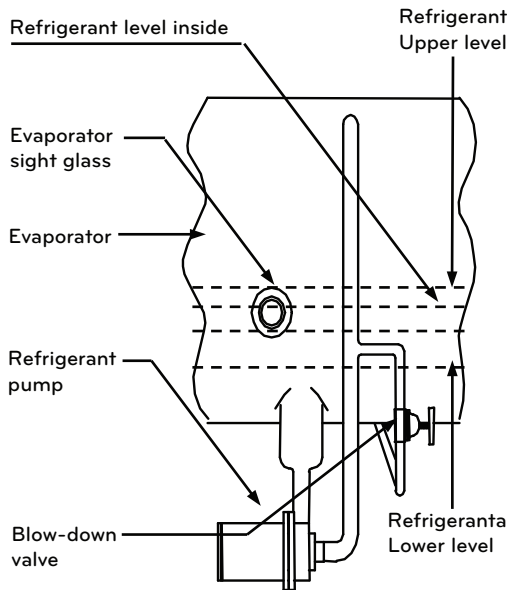

Figure 3-1. Blow-down
- ① Change the operation mode to manual at the 'Control Valve Manual' on the MICOM panel and close the 'Vapor Control Valve' to make a low heat capacity state. (Control valve opening to 30~50%).
- ② Rotate the blow-down valve counterclockwise as in Figure 3-1 to open it.
- ③ Check the amount of refrigerant through the evaporator sight glass.
- ④ Close the blow-down valve when the amount of refrigerant is reduced down to the bottom level.
- ⑤ Be aware of that refrigerant can move over to the absorber through the blow-down valve, thus the refrigerant pump performs no-load operation. And in case a refrigerant blow-down valve is attached, do not stop the refrigerant pump. If refrigerant pump stops in auto mode, then convert to MANUAL mode before putting it into operation. (When the temperature of chilled water is going down causing MICOM to be in auto mode, refrigerant pump stops automatically, thus be cautious of the low temperature of chilled water.)
- ⑥ When blow-down task is terminated, open a control valve in turn up to more than 70%, then convert to AUTO mode.